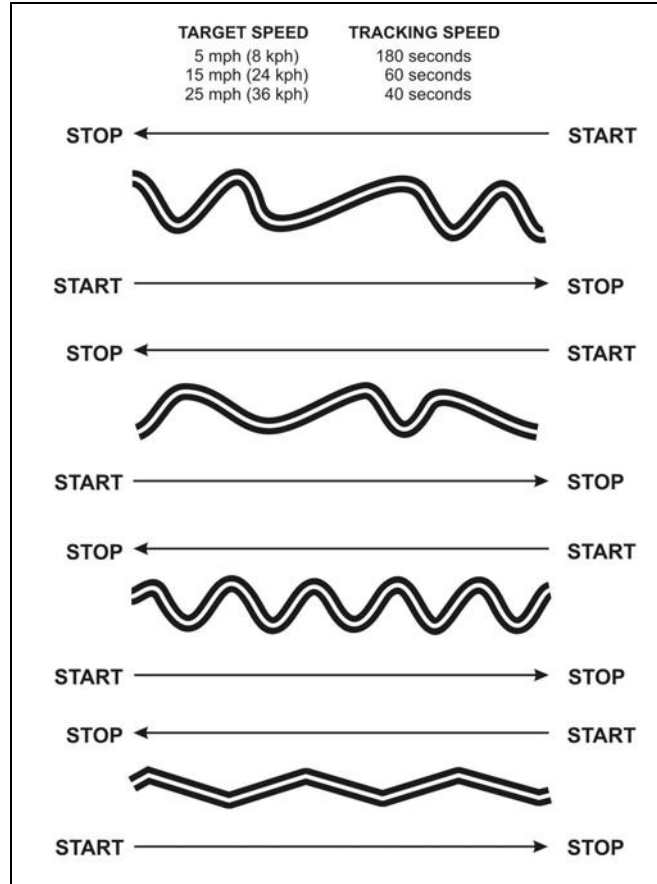

Figure 7-2. Manipulation tracking line (tracking board).
(2) **Conditions.** Given a fully operational BFV and tracking board (Figure 7-2), placed at the proper tracking line distance IAW Table 7-2 (Bradley-to-target distance).
(3) **Standards.** The BC and gunner must negotiate each tracking line, keeping the 1-mil aiming circle or TOW crosshair between the parallel tracking lines, within the time standards in Figure 7-2. The reticle aiming point or crosshair must not move outside the parallel lines more than three times on each tracking exercise. The exercise is conducted by both the BC and gunner from their handstations and by the gunner in the manual mode using the 25-mm reticle and TOW crosshair.